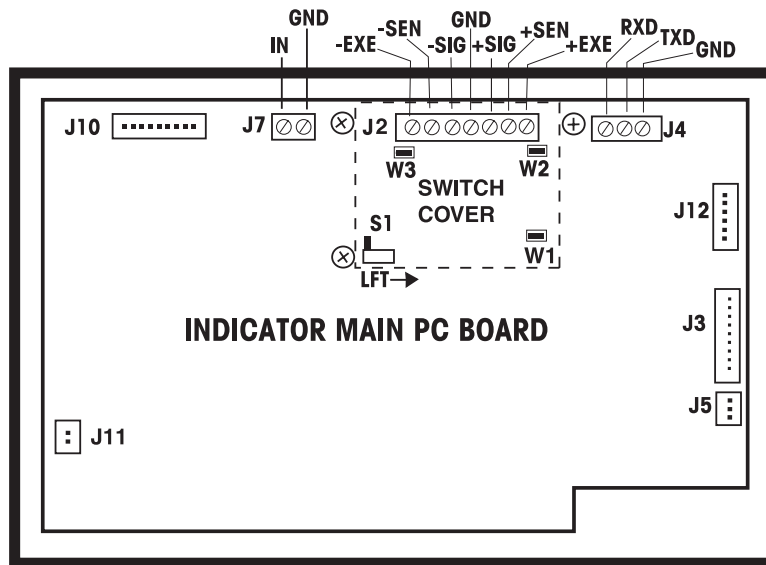

Figure 3-14. Main Printed Circuit Board Connections.
2. See Figure 3-14 Printed Circuit Board Connections and remove the switch cover. Retain the screws and cover.
3. Connect the Simulator to Terminal strip J2. See Figure 3-14. Tighten all terminal screws securely.